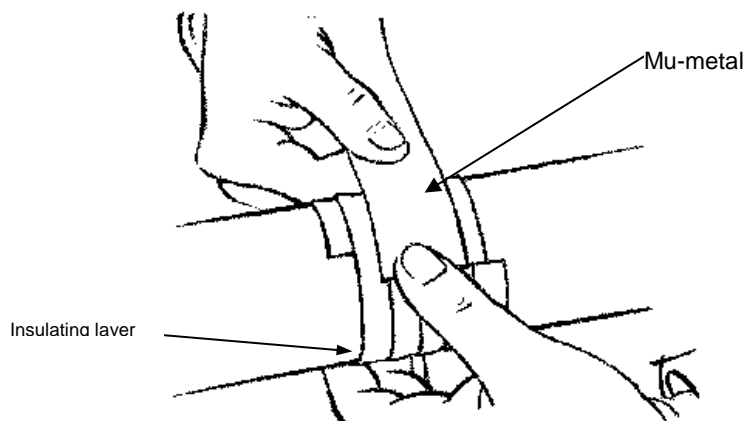

Figure 39: 1st mu-metal layer application
2. Cut the first layer of the mu-metal with protective foil to the required length, it should be long enough to wrap around the shaft's circumference. Pull off the protective film and glue the mu-metal onto the shaft (see figure 39). Its extremities must **not** touch; in order to prevent short-circuits. A gap of approx. 1mm is required.